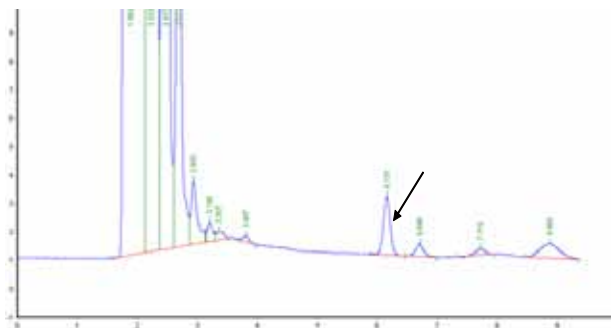

Figure 7. Chromatogram of blank fish sample
A) Figure 7 shows the chromatogram of blank fish sample.